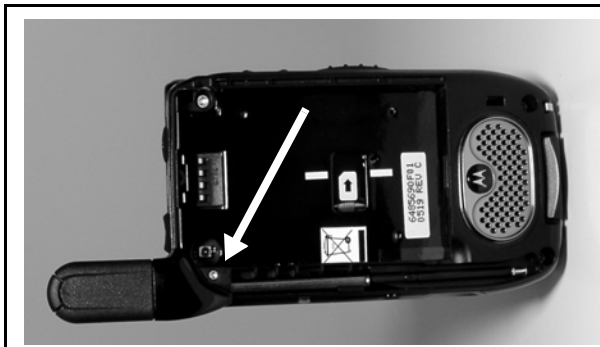

Figure 7-3.
3. Loosen T-4 screw counterclockwise. Remove completely (See Figure 7-3)